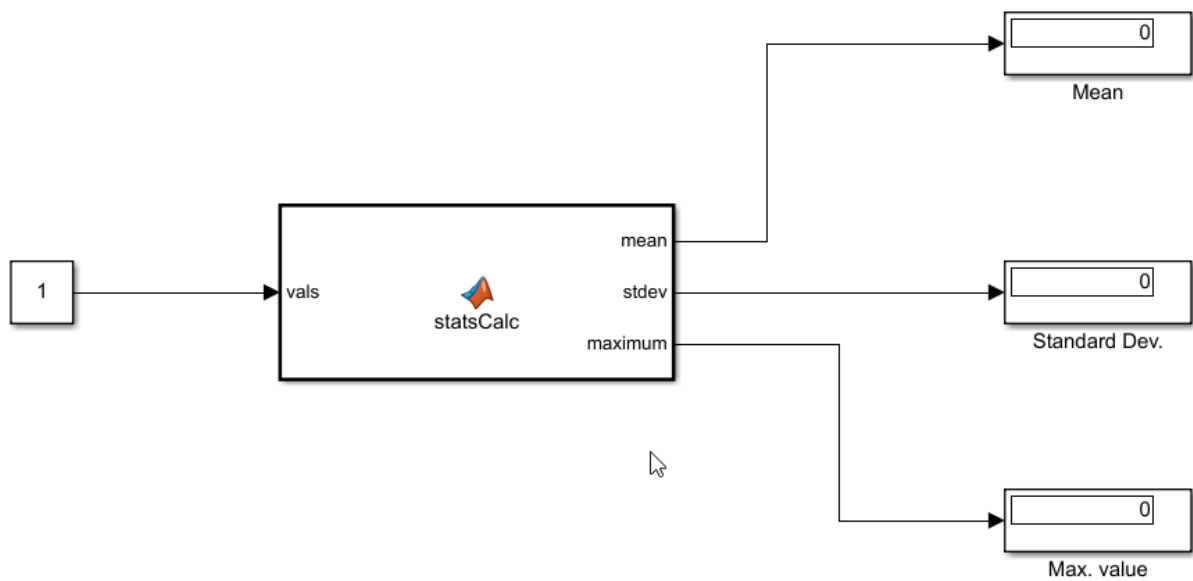

Figure 1: Connecting input and output blocks to MATLAB function block
9. Connect the blocks as shown in Fig 1 while assigning appropriate names to every block used for display.